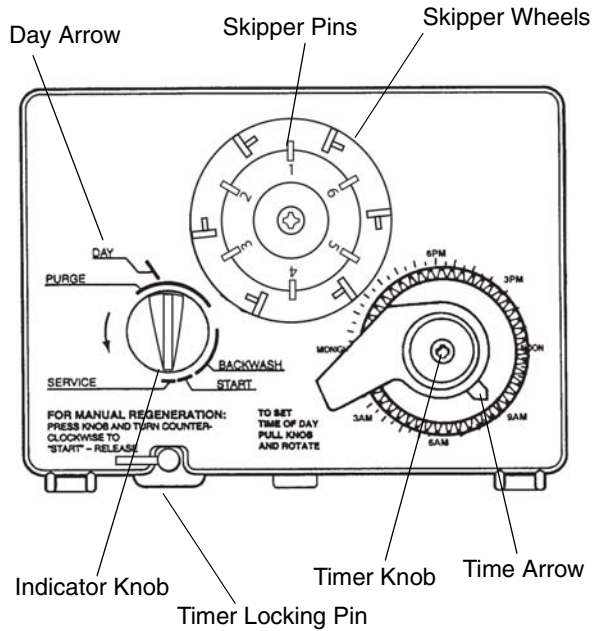
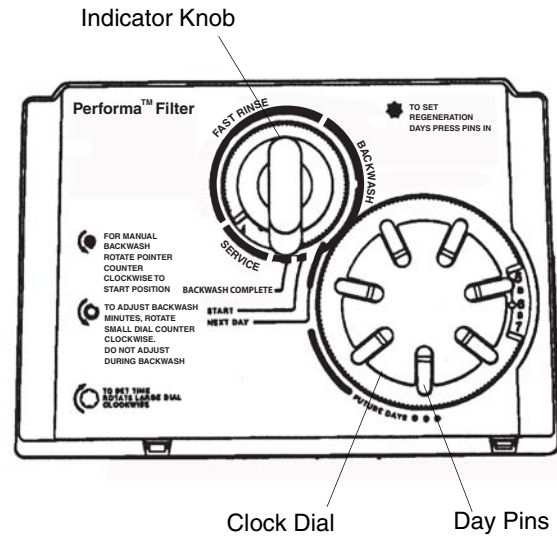
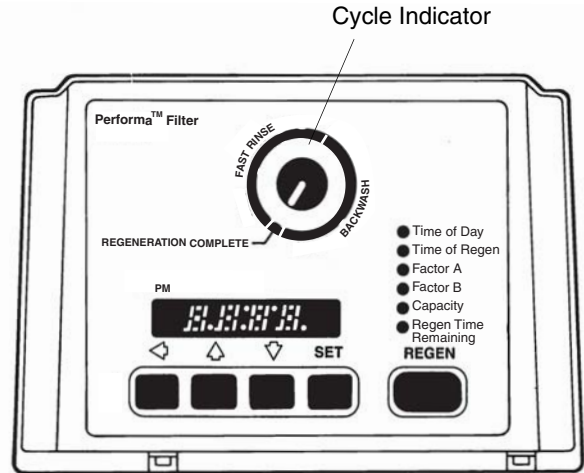

Figure 4
Figure 9
Figure 11
Note: The following steps will require turning the indicator knob (Figure 4 and Figure 9) or the cycle indicator (Figure 11) to various positions. Manually rotate the camshaft **COUNTERCLOCKWISE** only until indicator knob and cycle indicator points to desired position. (See manual regeneration sections for each control's manual operation.)
1. Set days of regeneration on skipper wheel (Figure 4).
Note: The timer locking pin should always be horizontal (Figure 4) during operation.
When abnormally high water usage exhausts your water conditioner's capacity ahead of schedule, an extra regeneration can be achieved. Depress the indicator knob on the 440i (Figure 4) with a wide-blade screwdriver and turn **COUNTERCLOCKWISE** to **START** to initiate a regeneration. It will take a few minutes for regeneration to start. A normal regeneration will take approximately two hours.
Electricity is used only to run the control and to rotate the camshaft. All other functions are operated by water pressure. Therefore, in the event of a power outage, all the regeneration positions may be dialed manually by depressing the indicator knob and turning **COUNTERCLOCKWISE** (Figure 4). The following cycle times should be used for proper regeneration:
1. Set days of regeneration (Figure 9).